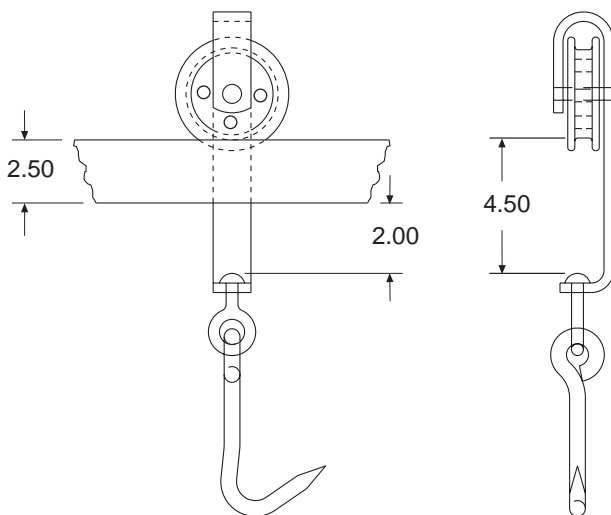

Figure 1: Minimum Clearances for Trolleys
Before installing the portable monorail scale, check the trolleys used in the plant to ensure there is adequate clearance between the top of the swivel hook and the bottom of the scale. See Figure 1. Check with the plant operator to make sure all trolleys in use meet these requirements.
1. Check that all trolleys using the scale have adequate clearance to fit on the scale. See Figure 1 for minimum clearance size.